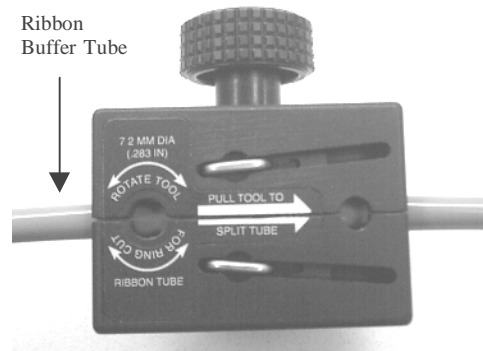

Figure 1 –Slitting the buffer tube.
4.1 The tool is composed of upper and lower body sections. Each section contains a semi-circular groove that runs along the length of the tool. An injector style razor blade is centered in the groove and positioned at a preset depth to split the wall of a ribbon buffer tube (Figure 1).